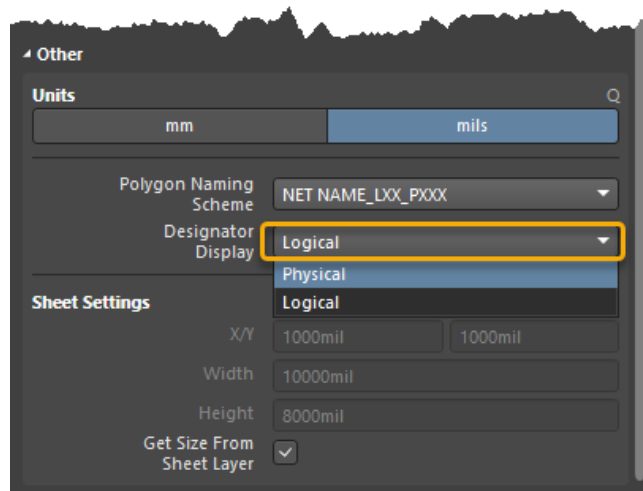

Figure 15. Board Options to Change Designator Display
- Change the **Designator Display** drop-down from **Physical** to **Logical**, as shown in Figure 15.